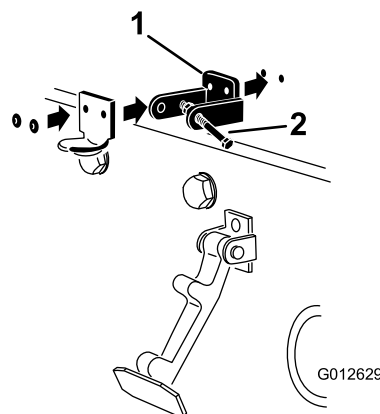

Figure 4
Note: The lock bracket must be against the hood (Figure 4). Do not remove the bolt and nut assembly from the lock-bracket arm.
6. Rivet the brackets and the washers to the hood (Figure 4).